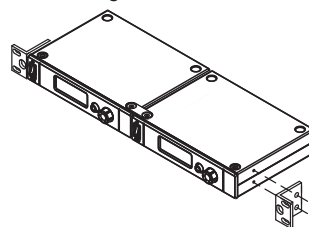

Fig. 10
- (C) Rackmount with an optional rack-mount kit, as Fig. 10.